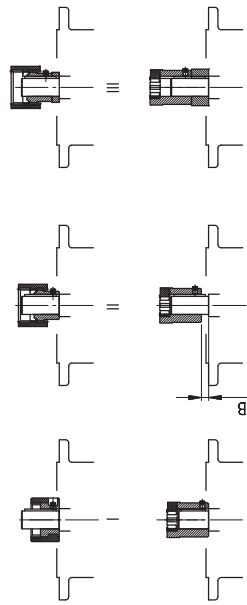

Figure 3-13: Fitting the coupling onto the motor shaft - various types of coupling
Dimension B (Fig. 3-13 V)	IEC size 63 B = 4,5mm
- Tighten the coupling sleeve on the motor shaft in accordance with the motor manufacturer's instructions until it touches the collar. With motor sizes 90, 160, 180 and 225, any spacer bushes must be positioned between the coupling sleeve and the collar. With standard helical gear units, dimension B between the coupling sleeve and the collar must be observed (see Figure 3-13). Certain **NEMA adapters** require the adjustment of the coupling in accordance with the specifications indicated on the adhesive plate.
- Mount the motor to the IEC /NEMA adapter, do not forget to fit the gear rim or the sleeve. (See Figure 3-13)